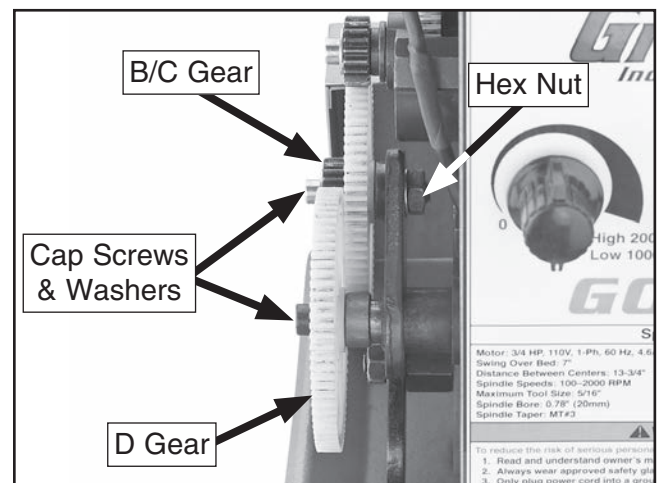

Figure 61. B/C change gear hex nut.
6. Loosen hex nut behind B/C change gear shaft shown in **Figure 61**, then slide B/C gear away from D gear.